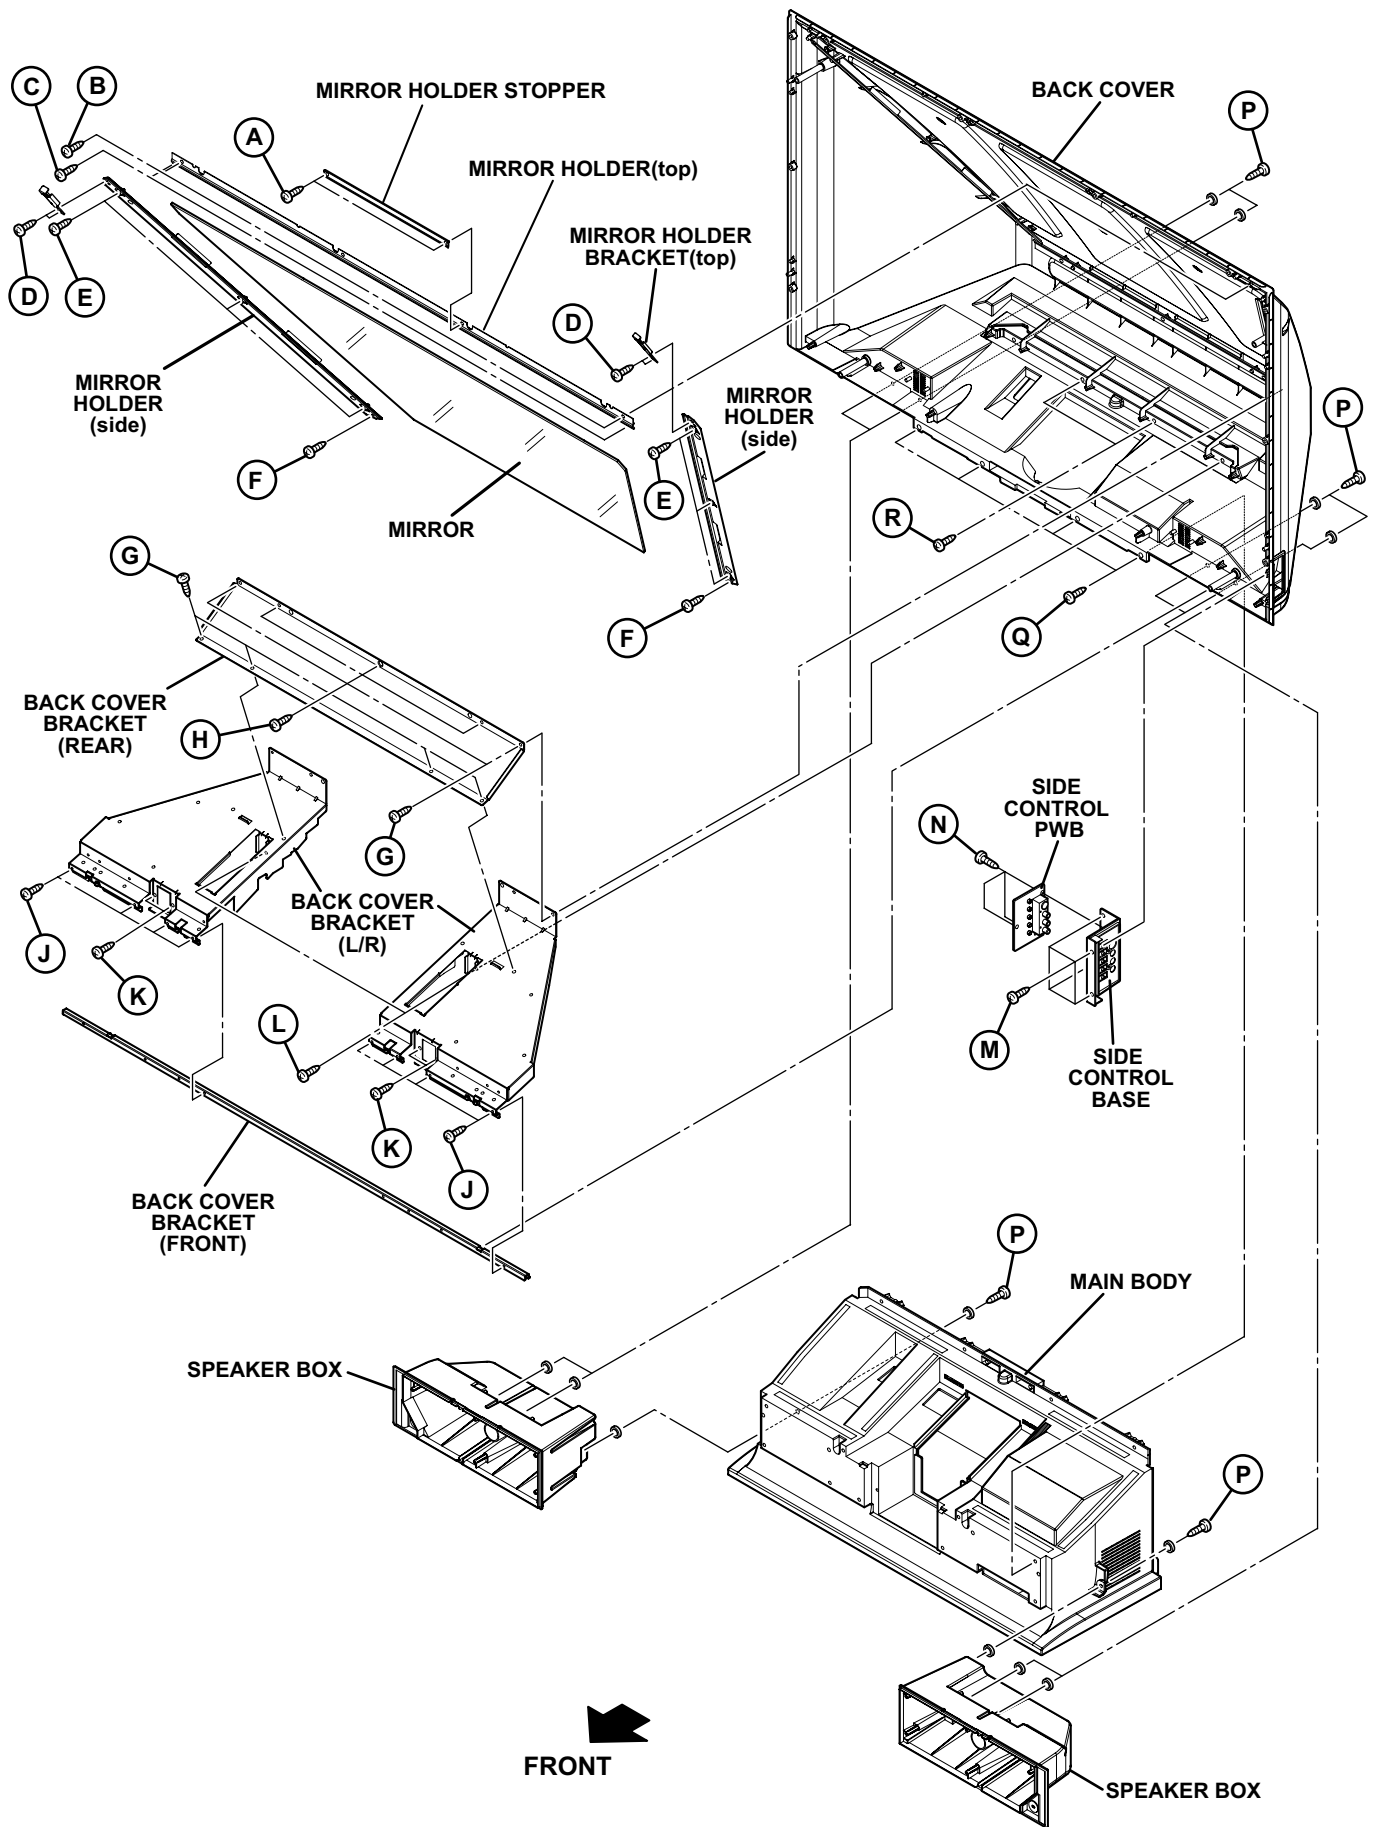

Fig.6
3.1.3.10 REMOVING THE MIRROR (Fig.6)
3.1.3.11 REMOVING THE BACK COVER BRACKET (Fig.6)
3.1.3.12 REMOVING THE SIDE CONTROL PWB (Fig.6)
3.1.3.13 REMOVING THE SPEAKER BOX (Fig.6)
3.1.3.14 REMOVING THE BACK COVER (Fig.6)